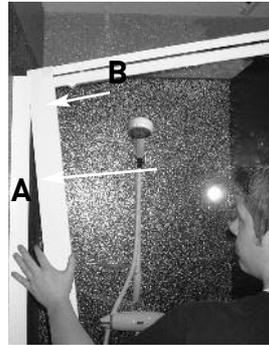
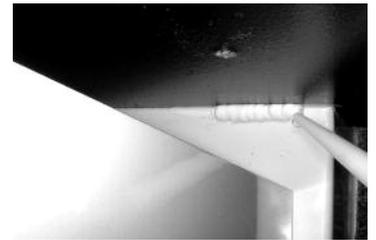

Figure b4
Figure b4i
④ Slide the remaining Wall Profile (A) over the Pivot Door (B) and then slide the Pivot Door into the fitted Wall Profile (**Figure b4**). Where the remaining Wall Profile is to be positioned on the Tray, place a bead of Bathroom Sealant (not supplied) the width of the Wall Profile along the tiled wall (**Figure b4i**).